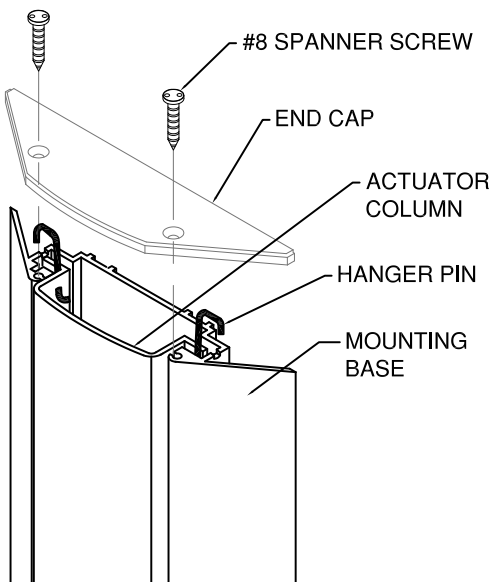

FIG. 2
1. Remove Spanner Screws from cap. Slide the ACTUATOR column out from the SWITCH BASE for base mounting (SEE FIG.2).
5. Slide the ACTUATOR back into the SWITCH BASE. Compress the SWITCH SPRING as the ACTUATOR passes the SWITCH. The HANGER PINS should rest in the slots at the top of the SWITCH BASE. (SEE FIG. 2.)
6. Position the END CAP onto the top of the SWITCH BASE. Attach with the supplied spanner security screws. (SEE FIG. 2.)